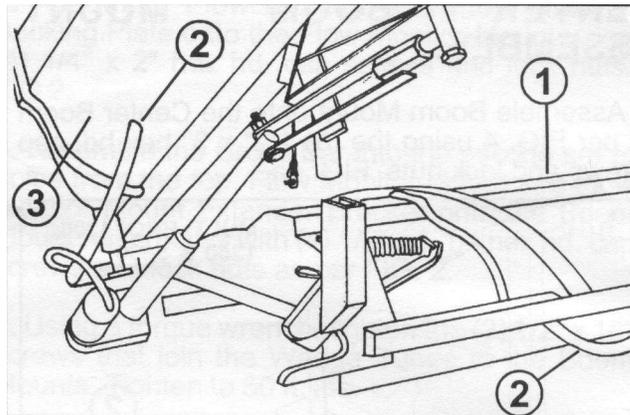
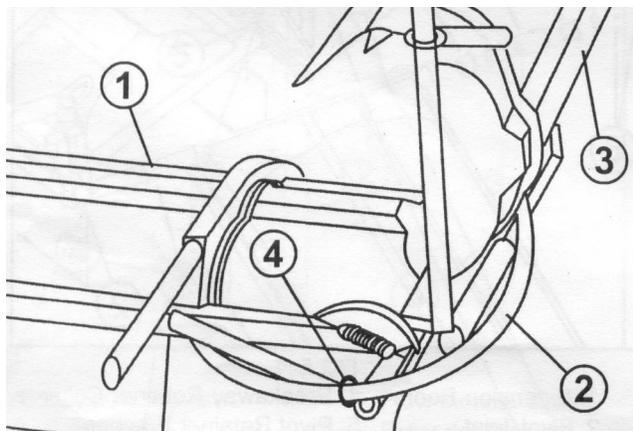

FIG. 7
FIG. 6
2. Route Right and Left Boom Feed Hoses as shown in FIG. 6 through ring at wing pivot joint and through Boom Center Section (FIG. 7) ensuring that there is adequate hose length at the Boom Extension Pivot Joint so that the hose is not stretched.